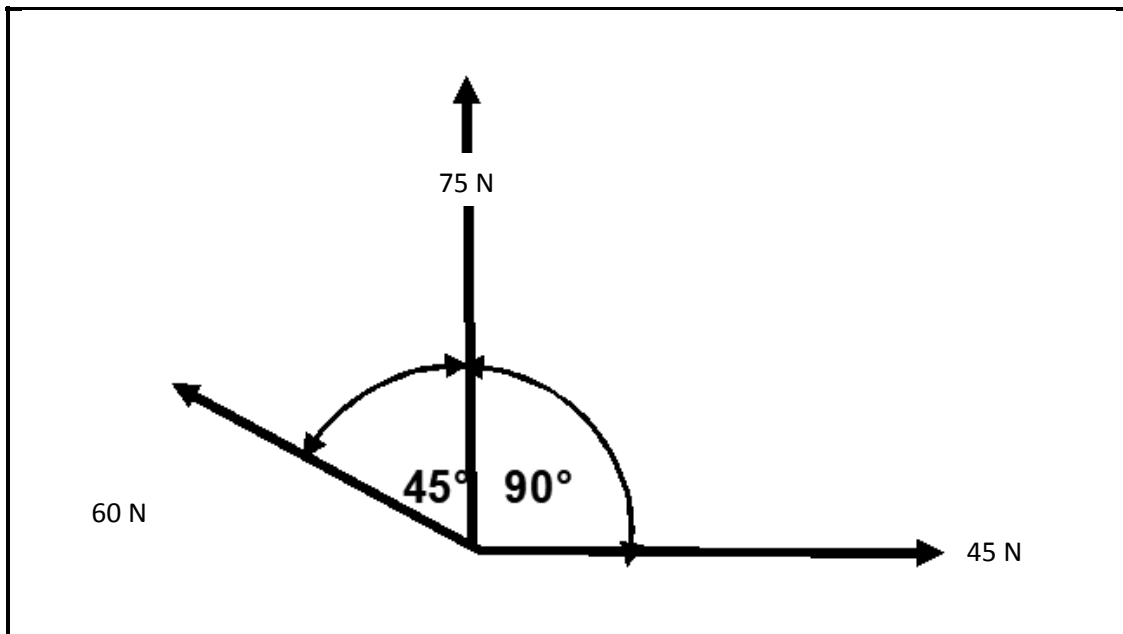

FIGURE 7.3
7.3 FIGURE 7.3 below shows a power system. Calculate the following: